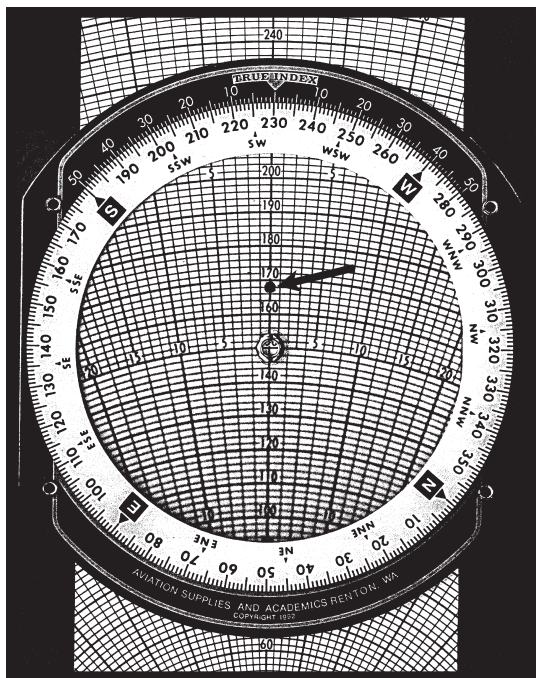

Figure 22
2. Using any convenient starting point, measure 18 units up from the grommet toward the TRUE INDEX and make a dot at 18 units (see Figure 22).